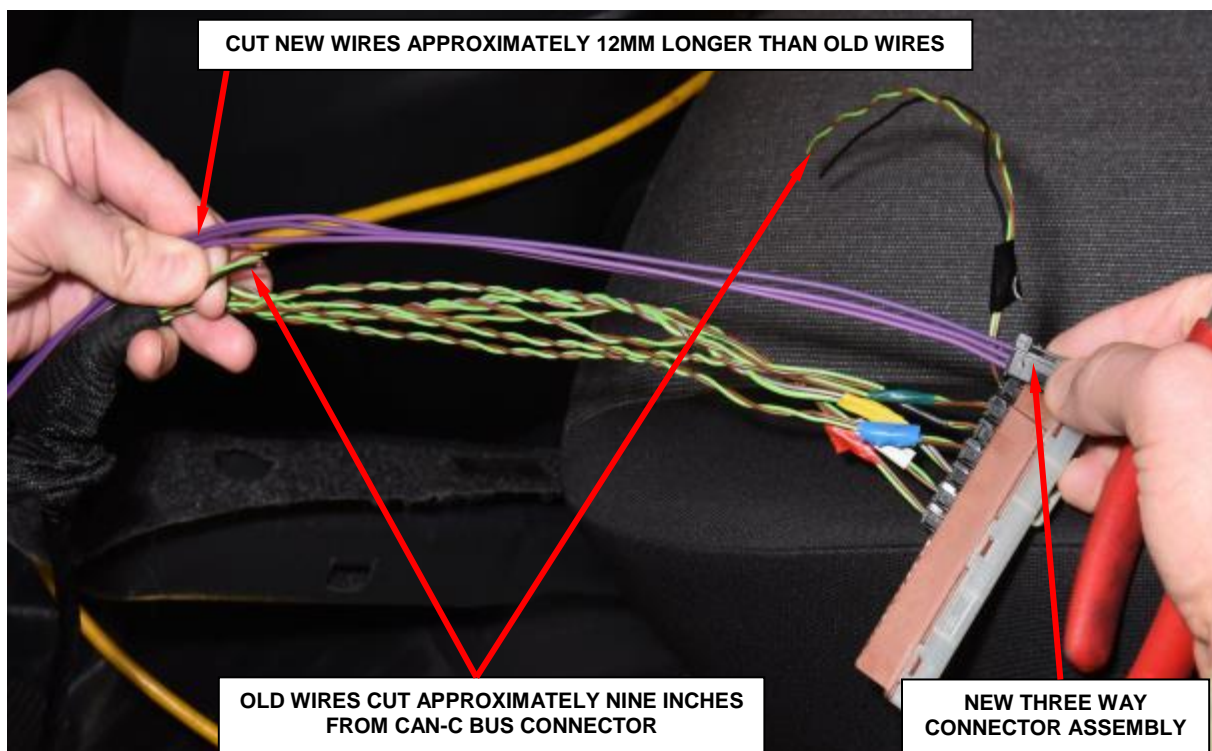

Figure 14 – Three Way Assembly
- a. Starting with the three way connector assembly cut the wires of the **OLD** assembly approximately nine inches from the CAN-C Bus connector (Figure 14).
- b. Holding the **NEW** connector assembly to the **OLD**, cut the **NEW** wires approximately 12mm longer than the old wires (Figure 14).